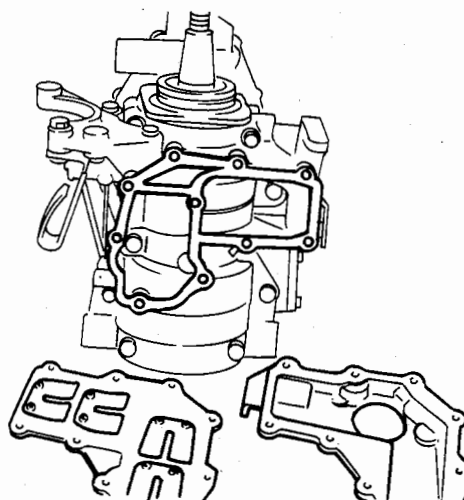

Fig. 33 Removing the inlet manifold and reed valve
(3) Inlet manifold and reed valve (Fig. 33)